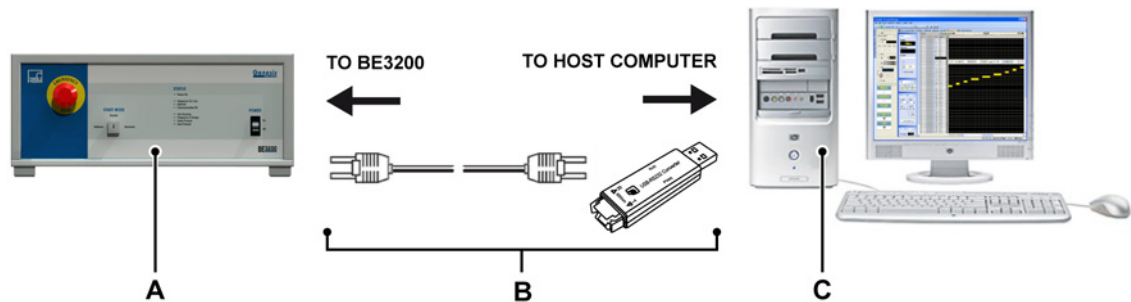

Figure 4.7: BE3200 to host computer interconnection
To connect the BE3200 to the host computer you must first assemble the serial link as shown in Appendix “Serial communication link” on page 81. Now connect the USB to optical serial converter, to a USB port of your computer and the twin-fiber-optic cable to the BE3200 as shown in Figure 4.7.
- The serial communication link must be connected correctly (see "USB to Optical Serial communication link" on page 40 and Figure 4.7 "BE3200 to host computer interconnection" on page 44).